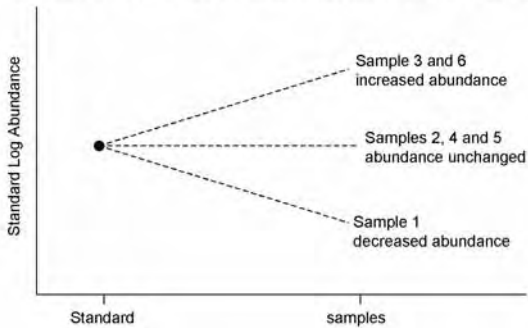

Fig 1-3.
- Spot quantitation is performed automatically by normalizing spot volumes against the internal standard (Fig. 1-3). The co-detection algorithm ensures that the internal standard and the quantified analytical spot have an identical spot boundary. This results in a highly accurate and robust protein quantitation.